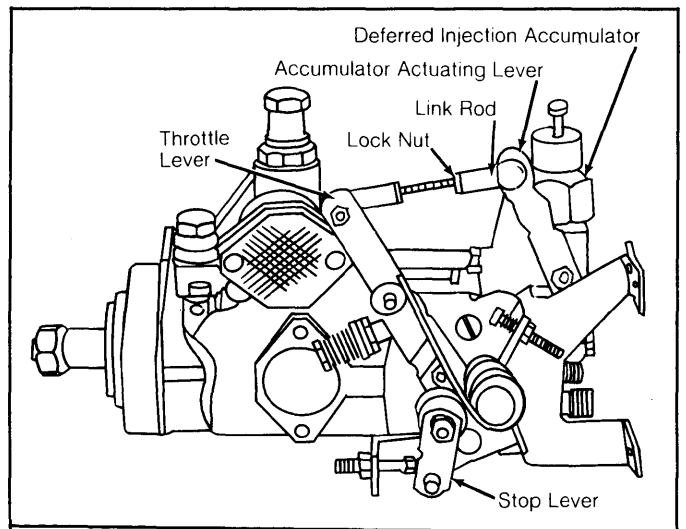

Fig. 5: EP/VAC Injection Pump Deferred Injection Device & Idle Speed Adjustment
- 2) Push accumulator lever to full open position. This position is evident by minimum engine speed. Adjust idle stop screw to obtain proper idle speed of 730 RPM. See Fig. 5.